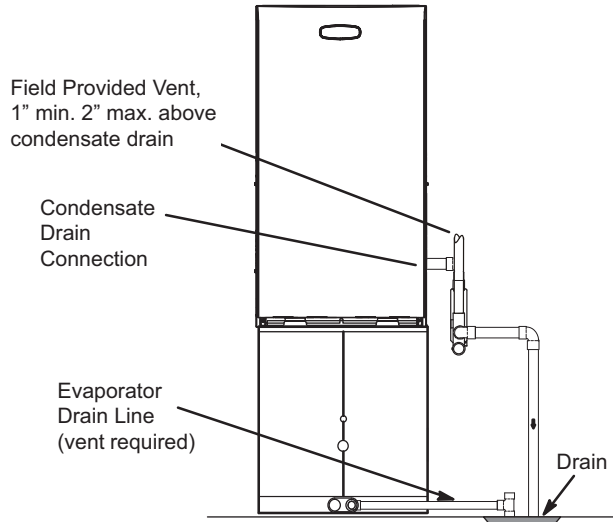
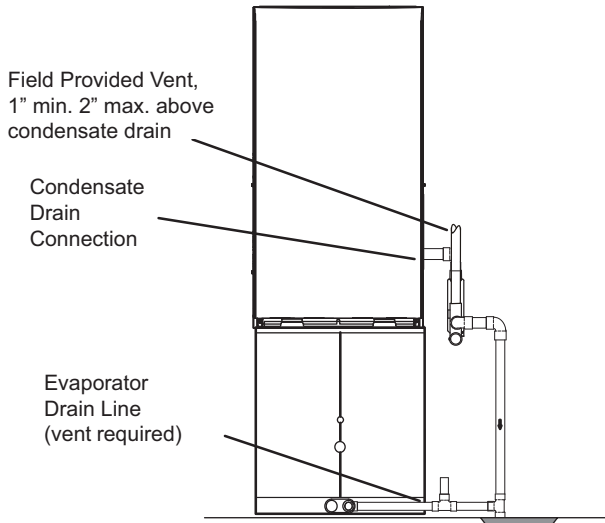

Figure 48. Furnace with Evaporator Coil Using a Separate Drain
Figure 49. Furnace with Evaporator Coil Using a Common Drain
- 5 - **Figure 48** shows the furnace and evaporator coil using a separate drain. If necessary, the condensate line from the furnace and evaporator coil can drain together. See **Figure 49**. The field provided vent must be a minimum 1" to a maximum 2" length above the condensate drain outlet connection.